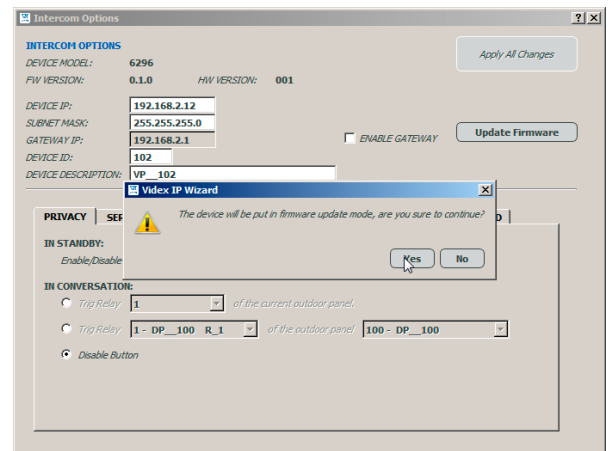

Fig. 29 Confirm the update clicking on yes button
- Confirm the update operation (Fig. 29).